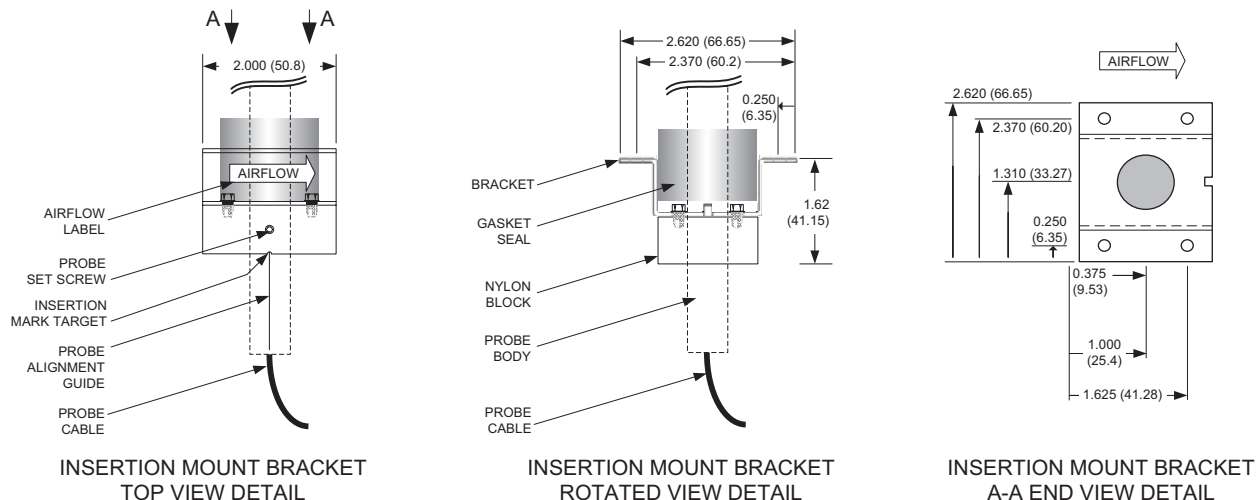
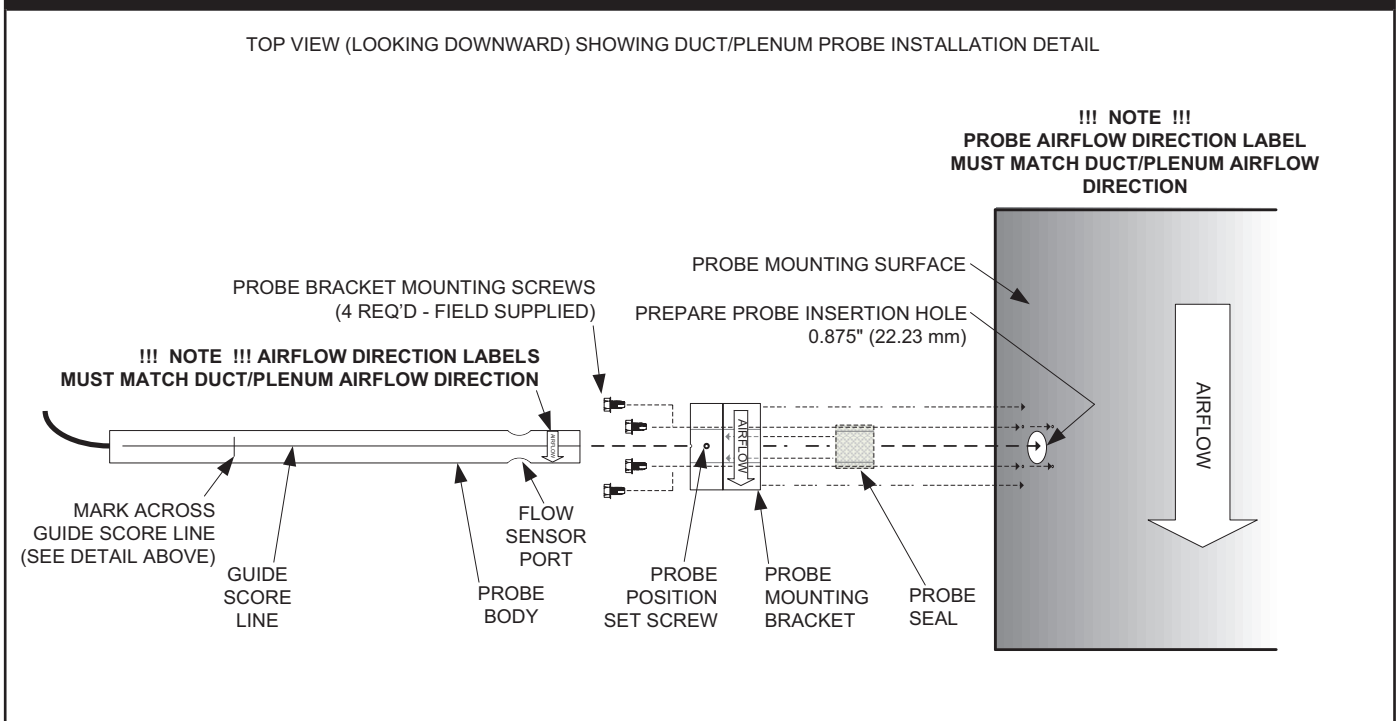

Figure 1. -U Universal Probe Mount Bracket Details
Figure 2. -U Probe, Universal Insertion Mount, Typical Single Probe Applications
3. Refer to mechanical details of Figure 1 and typical applications of Figures 2 and 3.
4. As shown in Figures 2 and 3, mark a probe insertion line across the factory score line on each probe at the insertion point.